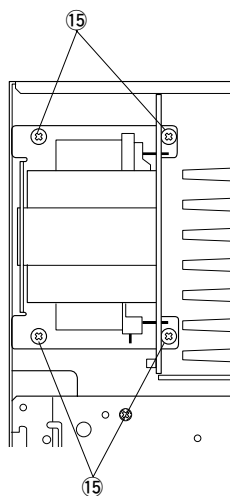

Fig. 9
- h. Remove 4 screws (15) and then remove the Power Transformer in Fig. 9.